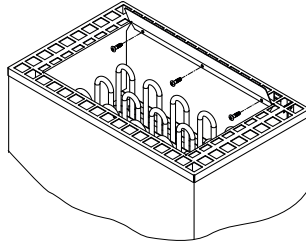

Fig. 5
- Attach the enclosed air deflector as shown in Fig. 5. To do this, first release the central screw on the top cover, then attach the deflector using this and two more tapping screws 4.2 x 9.5 from the poly bag.